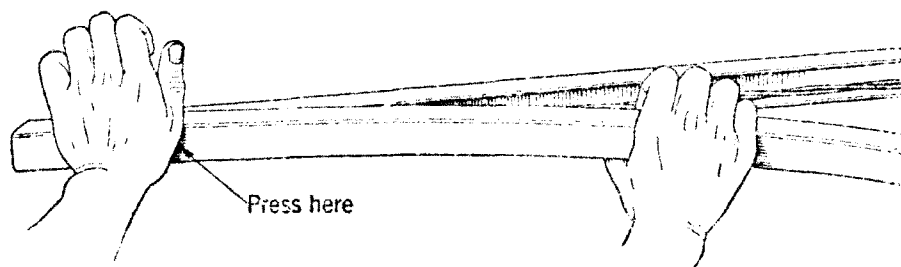

Fig. 3.
3.09 To place capping do not lay it on base and pound it in place, but hold it as shown in Fig. 3 at a slight angle with base. First force one corner into place, then rapidly shift hands along toward free end, exerting sufficient pressure to push capping into place at each shift. This generally requires a succession of pushes at intervals of two or three inches.